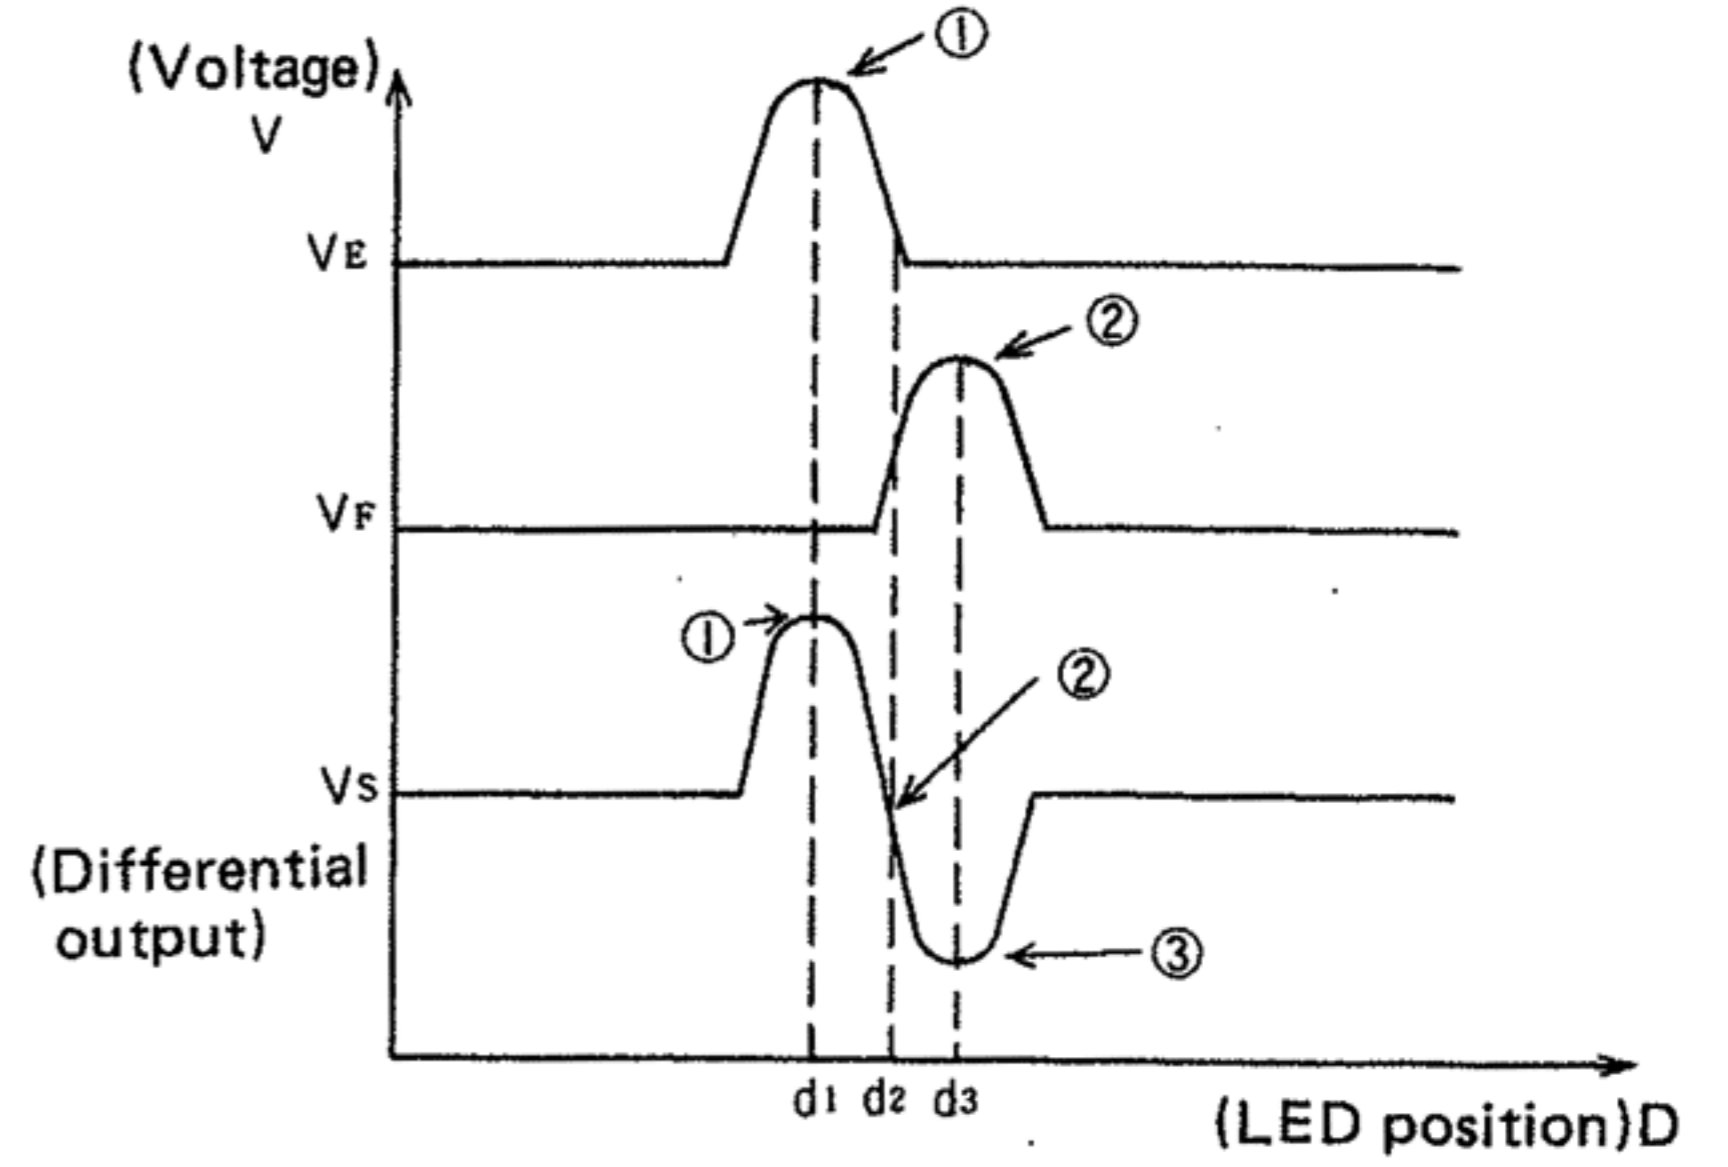
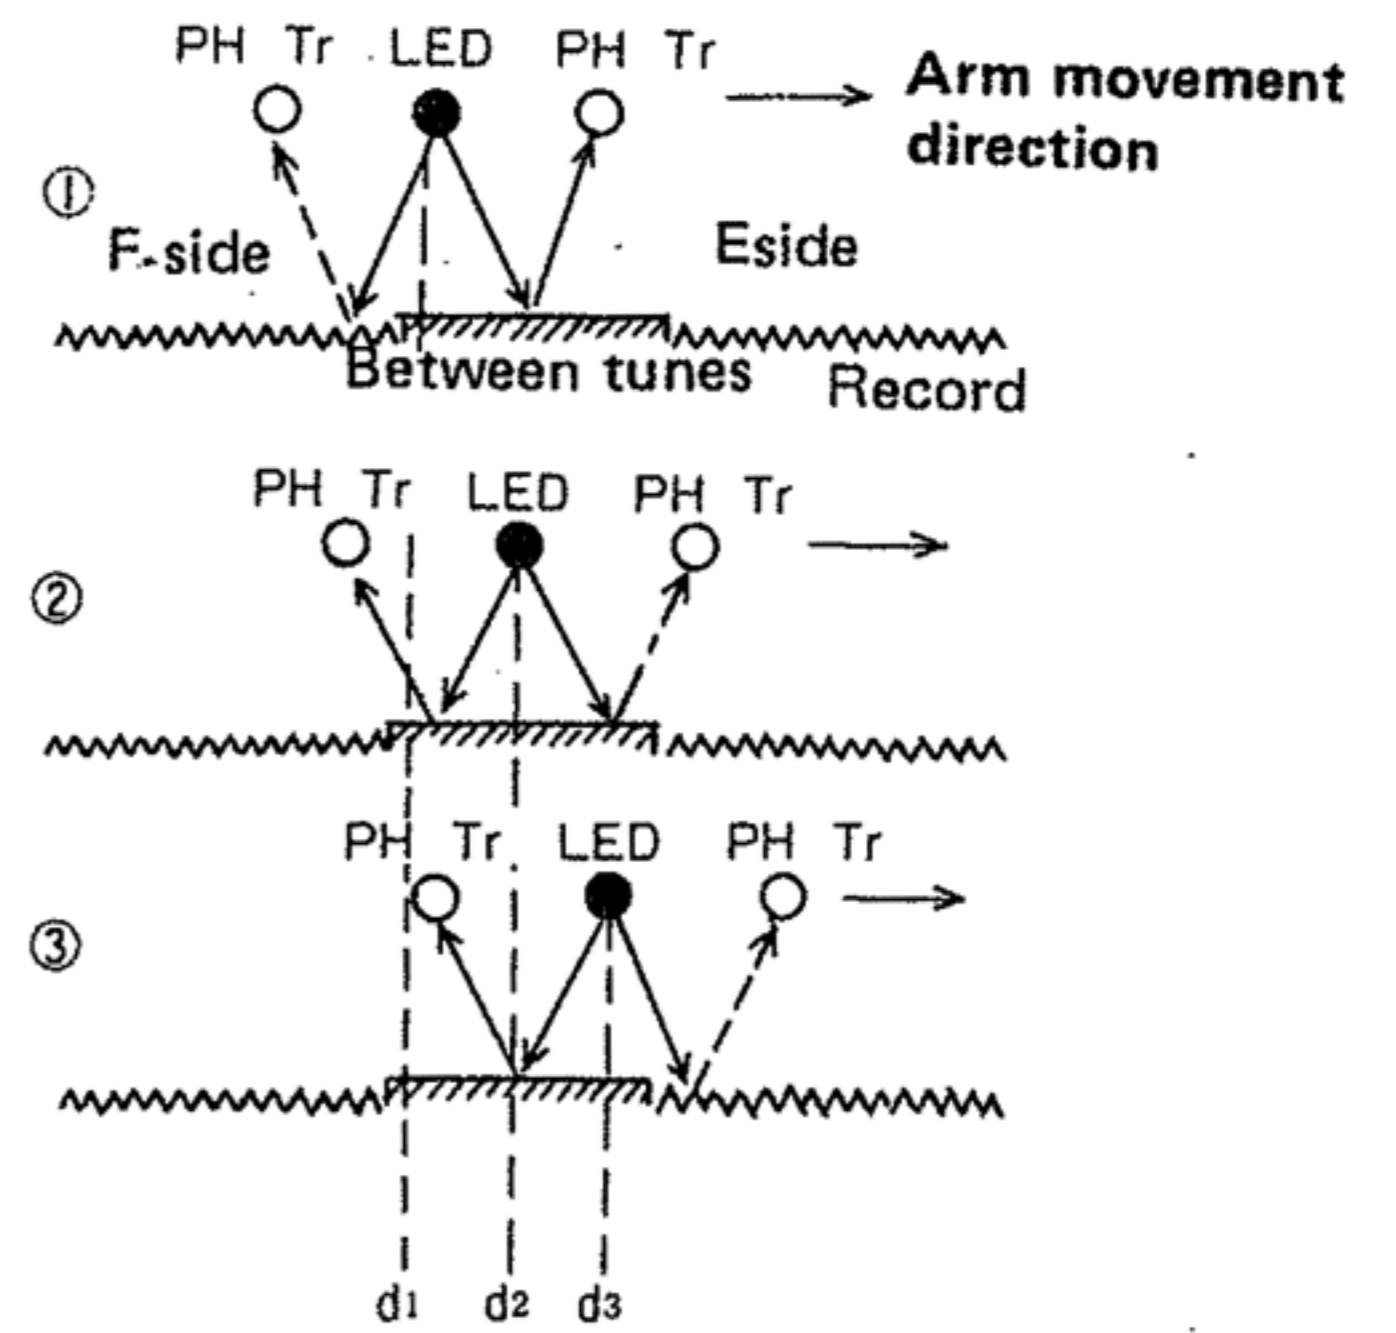

Fig. 2
Fig. 3
When the tone arm comes to the position (1) shown in Fig. 3, the strong light reflected between tunes strikes the phototransistor on the E side, so the output shown as (1) in Fig. 2 is obtained. Next, when the tone arm moves to the position (2), both transistors E and F are struck by light coming from between tunes, so the differential output between V_E and V_F is set to 0. When the tone arm passes between tunes and reaches position (3), only the phototransistor on the F side receives the between-tune reflection, so the output (3) shown in Fig. 2 is obtained. As is seen above, the output obtained when the tone arm passes between tunes, is V_S shown in Fig. 2.